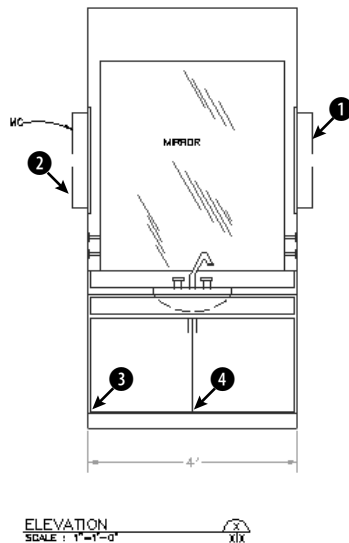

**Figure 11-20:** A lavatory cabinet.
2. Save the file as `ab11-04.dwg` in your AutoCAD Bible folder. This is an elevation view of a lavatory cabinet, shown in Figure 11-20.